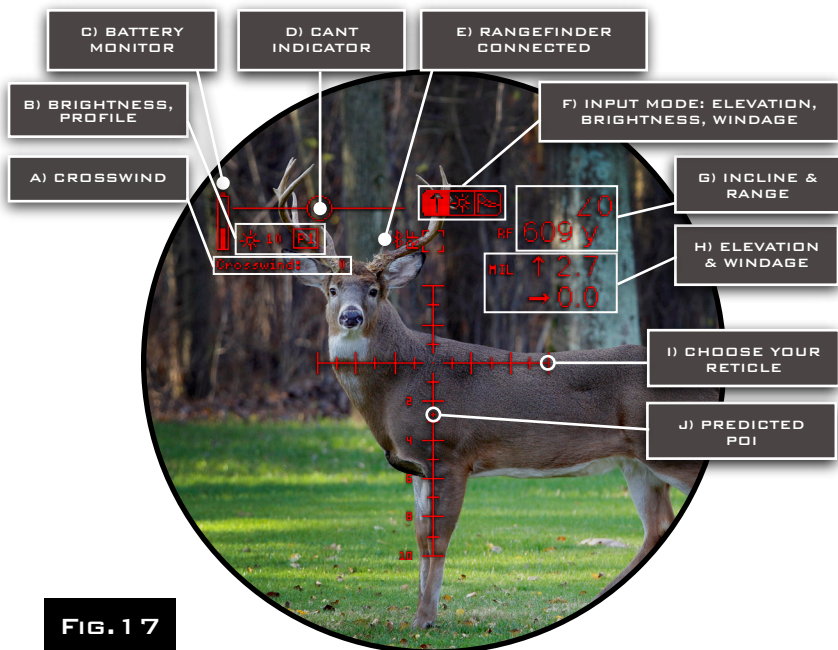

FIG. 17
- 3) The distance can be entered manually by turning a wheel at the top of the scope (Fig.16, Pos C). The Input Mode needs to be on "Elevation" (left icon, Fig.17 Pos.F) for this function.
- A) **CROSSWIND:** Can be dialled in by pressing the mode button (Fig.16, Pos.A) to select the “windage” input mode (Fig.17, Pos.F, icon 3) and turning the input dial (Fig.16, Pos.C) clockwise (right wind) or anticlockwise (left wind).
- B) **BRIGHTNESS & PROFILE:** Display Brightness has 15 settings and can be adjusted by pressing the mode button (Fig.16, Pos.A) to select brightness input mode (Fig.17, Pos.F, icon 2) and then using the input dial (Fig.16, Pos.C) to turn up or down. Profile icon indicates the profile in use (P1, P2, P3 or P4). These can be selected within the scope by pressing the power button (Fig.16, Pos.D), selecting “PROFILE” and using the input dial to select profile number.